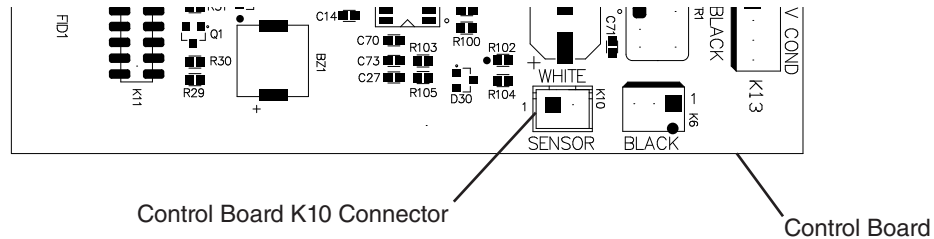

Fig. 2
- 3b) **N-3 Auxiliary Codes and Later - BC1 (ultrasonic sensor) Power Supply (K10 connector):** CB K10 connector is supplied with a 60 kHz signal. **Diagnosis:** Check that CB BC1 "BIN FULL" orange LED is off. Disconnect BC1 from K10 connector. See Fig. 2. CB BC1 "BIN FULL" orange LED should come on. If not, replace CB. Reconnect BC1 to K10 connector. If LED is on, move ice away from lens. If no ice is present, clean the lens with a warm, clean damp cloth. If cleaning the lens does not work, replace BC1 (ultrasonic sensor).